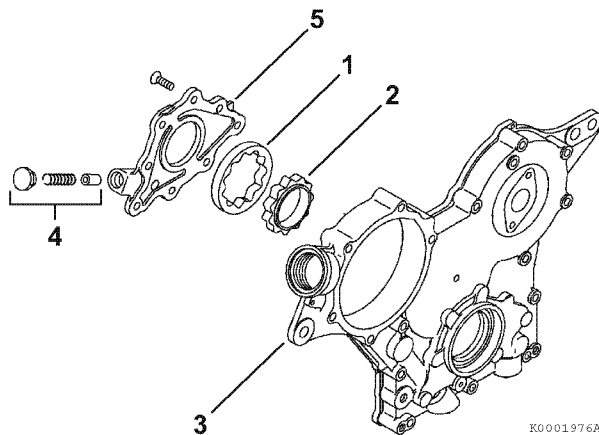

Figure 9-11
1. Lubricate the outer rotor (1, **Figure 9-11**), inner rotor (2, **Figure 9-11**) and pump bore in the gear case cover (3, **Figure 9-11**) with clean engine oil.
4. Reinstall the oil pressure regulator valve (4, **Figure 9-11**) into the oil pump cover (5, **Figure 9-11**). Apply LOCTITE 242 (red) to the valve plug, following the manufacturer's instructions.
5. Reinstall the oil pump cover (5, **Figure 9-11**). Apply LOCTITE 290 (green) or LOCTITE 262 (red) to the oil pump cover screws. Tighten the pump cover screws to 52 - 70 in·lb (5.9 - 7.9 N·m, 0.6 - 7.9 kgf·m).